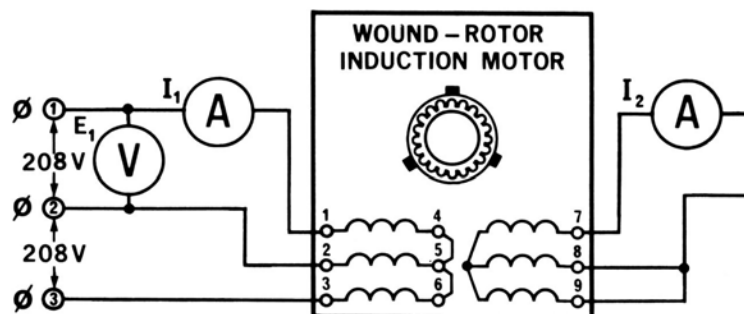

Figure 13-3
- 4) Construct the circuit shown in Figure 13-3. Note that this time three stator windings are connected to the fixed 3-phase output of the PS (terminals 1, 2, and 3).